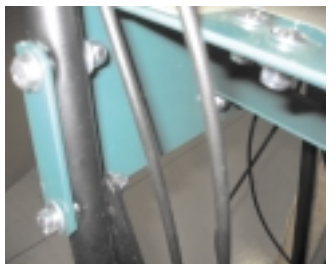

Figure 11-7
13. Position control cables and use 2 cable ties on each handle to secure the cables in position. The top cable tie should be 1" below the console and the lower tie should be 12" below the console (see figure 11-7).